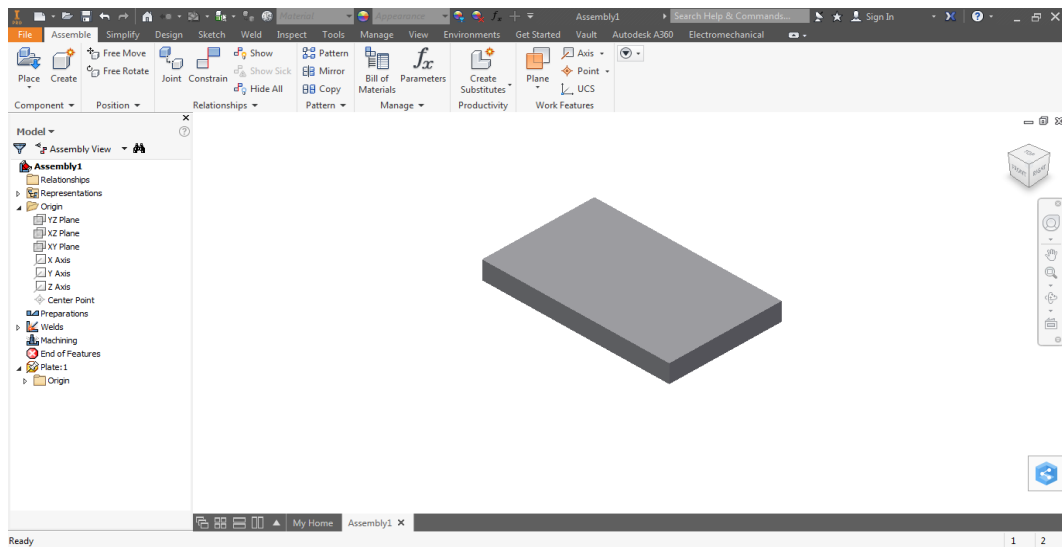

Figure 16-20 Weldment after creating the plate
4. Next, choose the **OK** button from the **Create In-Place Component** dialog box and then create a plate of dimensions 50 x 30 x 5 mm. Save the file and then choose the **Return** tool from the **Return** panel to return to the Assembly environment. The Weldment assembly after creating the plate is shown in Figure 16-20.